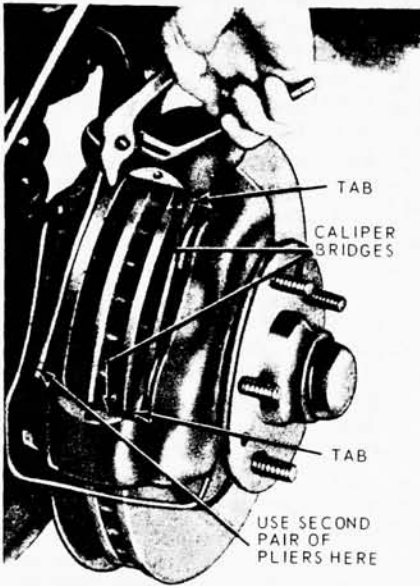

FIG. 9—Removing Disc Brake Shoe and Lining Assembly
pliers and pull the shoe out of the caliper (Fig. 9).
1. Position a new shoe and lining assembly on each side of the rotor so that the lining faces the rotor. Be sure that the tabs on the shoe flanges seat fully against the caliper bridges (Fig. 9).